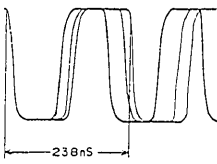

Fig. 4-109
(5) Carrier Frequency Adjustment (Figs. 4-109, 4-151)